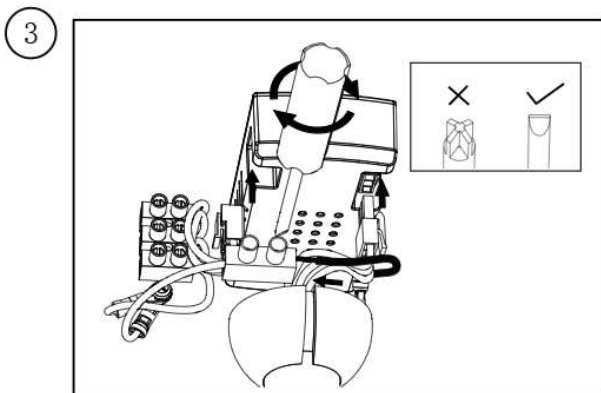

Fig. 4.3
3. Connect the wiring (Fig.4.3 & **Refer to the wiring diagram in Fig.5 for more information**)